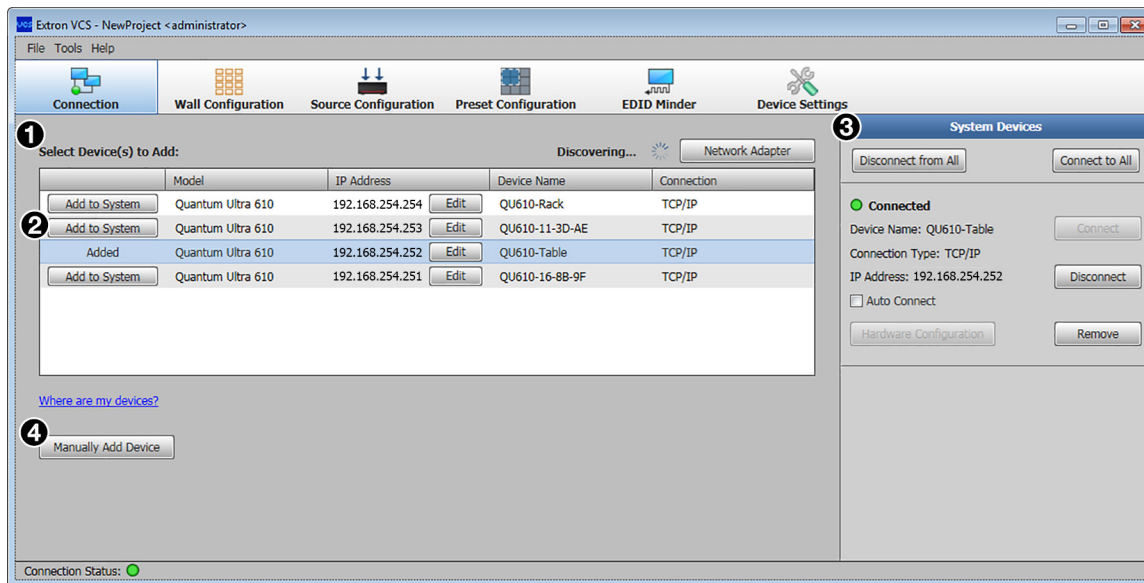

Figure 3. New Project Screen
4. Select the **Quantum Ultra / Quantum Ultra II** radio button (❷) and click the **Create** button (❸). VCS searches for Quantum Ultra Series devices on the network.
The New Project screen is displayed. The Select Device(s) to Add panel (see figure 3, ❶ on page 6) displays all detected devices of the type selected on the Create New Project screen.
5. Locate your Quantum Ultra Series device in the Select Device(s) to Add panel, and click the **Add to System** button at the left of the device name. If a project already exists on the selected device, a prompt opens, asking if you want to apply your new project to the device (deleting the previous project). Click **OK** to continue creating the project (or **Cancel** to stop the procedure). Connection information is displayed in the System Devices panel. If the computer is successfully connected to the device, the word **Connected** is displayed, preceded by a green dot, in the System Devices panel (see figure 3, ②).
4. Click **Add**. The connection information for the device is displayed in the System Devices panel (see figure 3, 2 on page 6). A unit added by this method is **not** displayed in the Select Device(s) to Add panel.